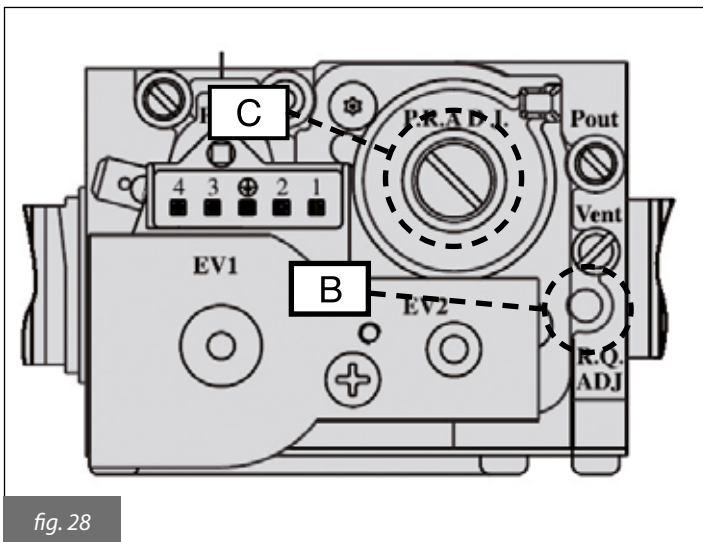

fig. 28
- Set flue gas CO₂ rate by turning the ratio adjuster B (fig. 28) and ensure that reading falls within the limits of table 17.
- Set flue gas CO₂ rate by turning the offset adjuster C (fig. 28) and ensure that reading falls within the limits of table 17.